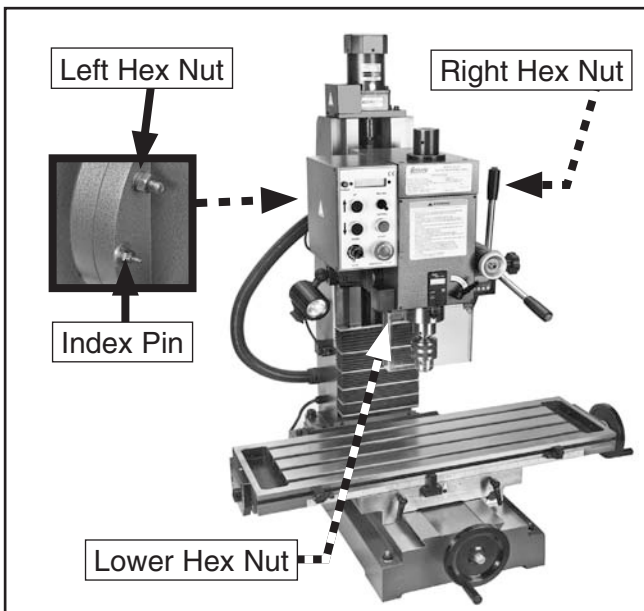

Figure 22. Headstock tilt locking hex nuts.
4. Located on the headstock swivel mount, loosen the left, right, and lower headstock tilt lock nuts shown in **Figure 22**.
5. Pull and hold the spring-loaded index pin (see **Figure 22**) outward approximately $\frac{1}{4}$ " to disengage it while you rotate the headstock to the desired angle as shown by the digital protractor.